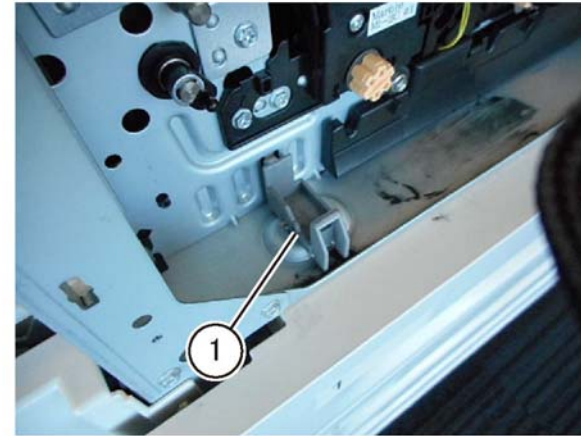

Figure 8 Container support
17. Release the hook and remove the container support (1) Figure 8.